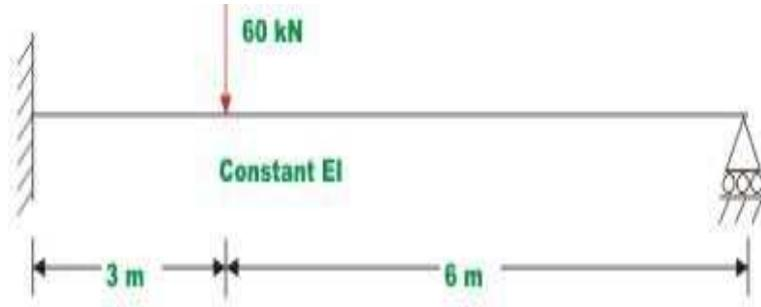

Fig 2
- b) Analyse the propped cantilever beam shown in Fig.2. Draw BMD and SFD by the flexibility method.